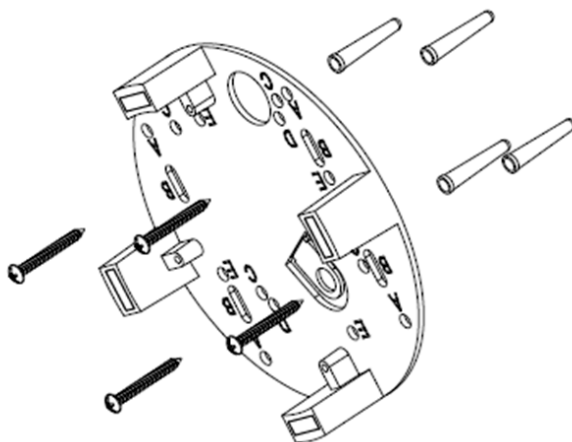

Figure 2
5. Align four supplied screws with the dry wall anchors and screw mounting plate into place as shown in Figure 2.